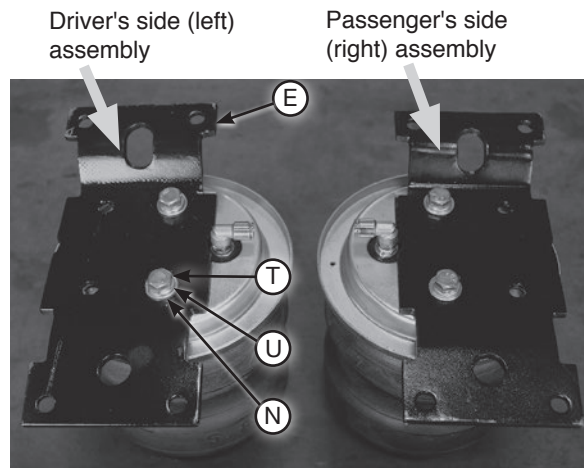

fig. D.8
2. Set the upper air spring bracket (E) onto the top of the air spring using one set of holes with the 3/8"-24 x 7/8" hex cap screw (T), 3/8" lock washer (U) and 3/8" flat washer (N) (Fig D.8). Install the remaining air spring bracket onto the remaining air spring, using the opposite holes from those that were previously used. This makes the air spring assemblies into left- and right-hand units. Torque the hardware to no more than 20 lb.-ft. (27Nm).